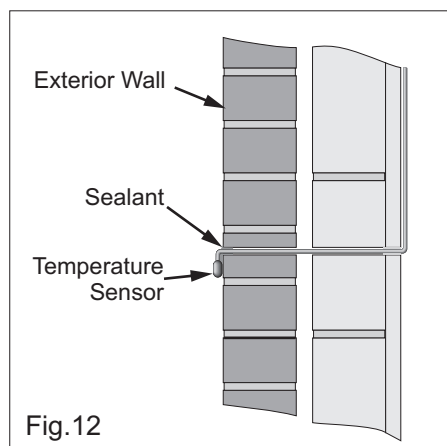

Fig.12
1. Drill a hole through the exterior wall and feed the temperature sensor through so that the bulb is outside the building to enable an accurate temperature reading (see Fig.12).
2. Seal the hole with a suitable sealant (Not included) to prevent draughts, water ingress and to hold the probe in place (see fig.12).